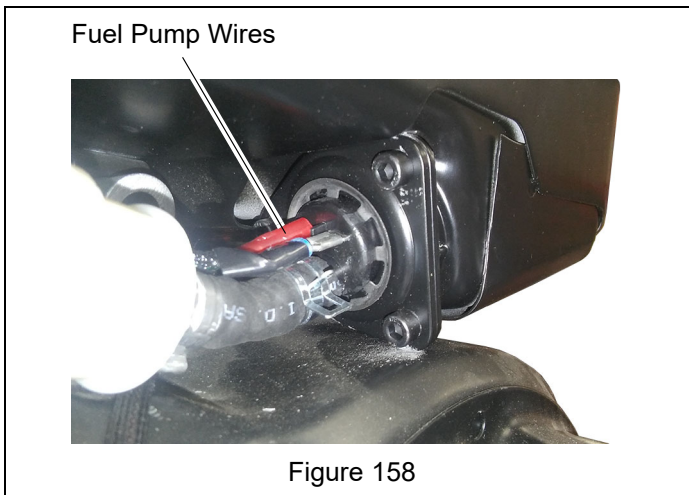

Figure 158
4. Check fuel pump wiring to ensure it is connected correctly. See Figure 158.